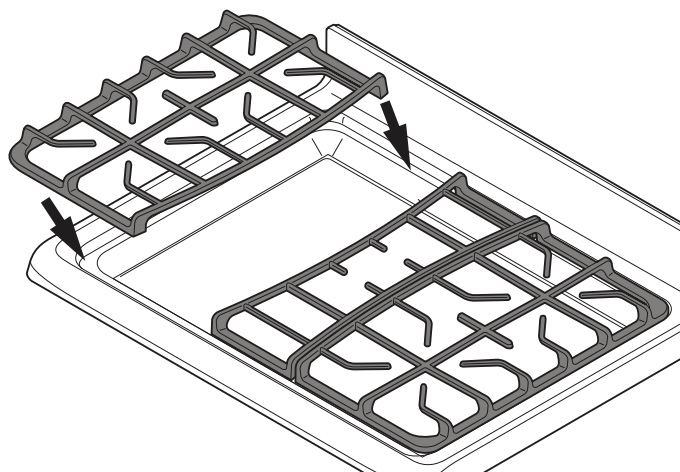

Figure 4: Proper grate installation
- Make sure the burner grates are properly placed on the cooktop before using the surface burners (Figure 4). The grates are designed to rest inside the recess on the cooktop.